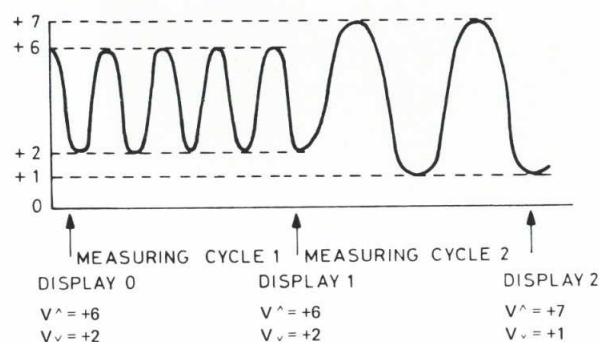

Fig. 18. $V^{\wedge}$ and $V_{\vee}$ measurement in INT START mode.
- Internal starting of measurements (INT START, fig. 18).